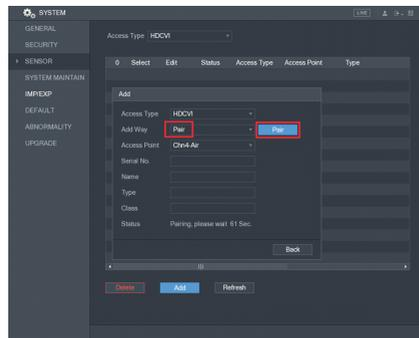

Figure 5-4
- Select “Access Type” as “HDCVI”, “Add Way” as “Pair” and “Access Point” as the connection channel between camera and XVR device, click “Pair” and the interface bottom will display pairing is in progress and enter countdown, which is shown in Figure 5-4.